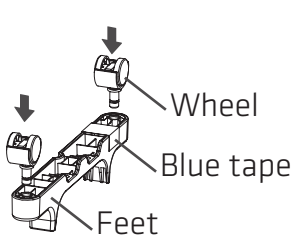

figure 1
- Remove the feet from the intermediate heat sink and remove the wheels from the foam. Press the wheels on the supporting holes, as shown in Figure 1.